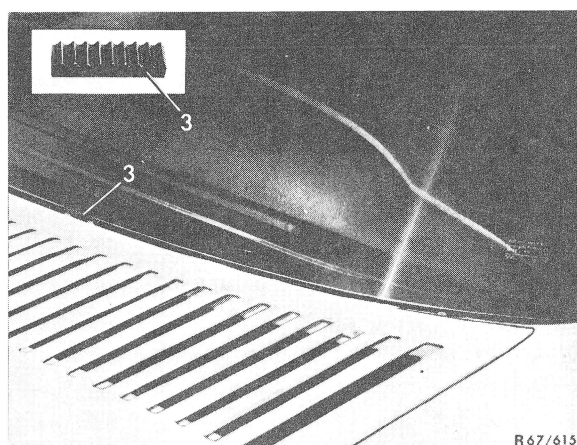

Fig. 4
16 Place two spacers (3) (4 mm high) from repair kit as shown in Fig. 4 each on second clip from outside for bottom trimstrip attachment.